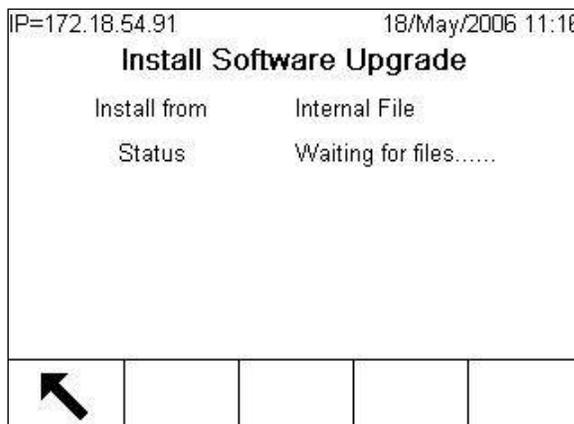

Figure 4-3: Firmware Upgrade – Waiting for Files
- Press the START softkey  to perform the upgrade. If the files are not present in the Upgrade folder, the screen shown in Figure 4-3 appears. Performing the copy operation from InSite will continue the process. Pressing the EXIT softkey  abandons the process and returns to the setup tree.